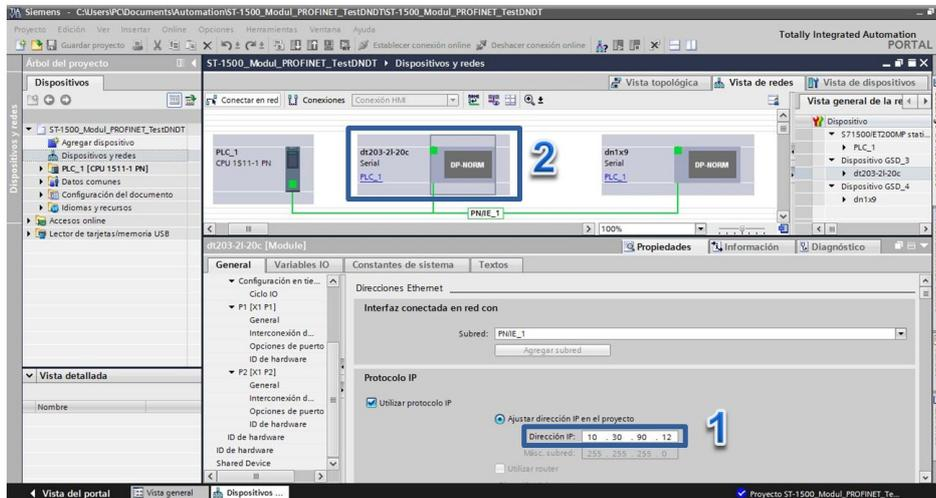

Fig. 11 Define the Displays connection with PLC
To download the configuration to the device, select the network card in the “**PG/PC interface**” field (3) at “**Extended download to device**” window, and establish the identifier of the Profinet network (PN/IE\_1 in this example, See Fig. 11) in the “**Connection to subnet**” field (4).